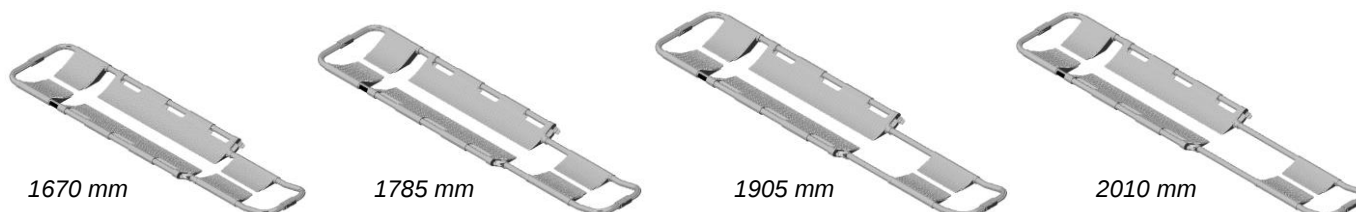

Figure 4
4. unthread the two feet profiles and adjust in the desired position, considering that the stretcher's length can be adjusted from 1670 to 2010 mm in 4 intervals (fig. 4);